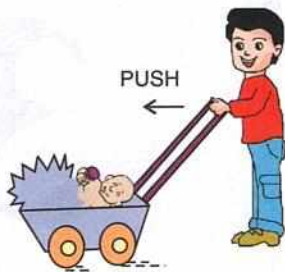

Fig. 3.1 Force as push to move the baby stroller
4. To move a trolley (or a baby stroller), it is pushed by the caretaker as shown in Fig. 3.1.